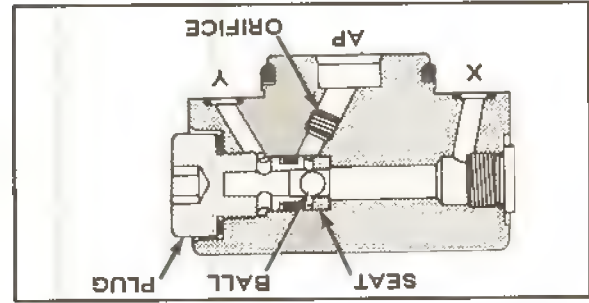
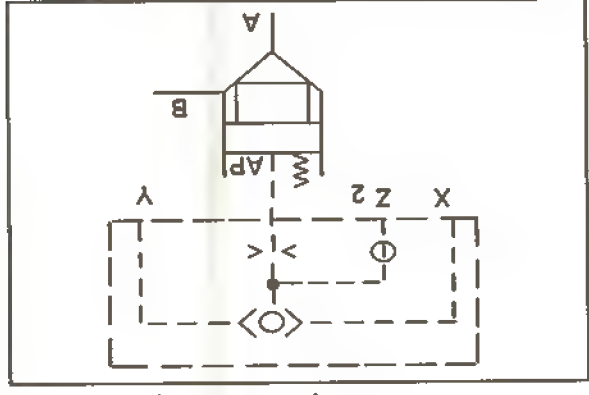

Figure 7. Shuttle Cover Assembly (W Function)
Figure 7a. Shuttle Valve Operation (W Function)
This shuttle cover assembly is available in the 16, 25, 32 and 40mm size. The shuttle cover will take the higher of two pressures and direct it into the pilot spring area (AP) of the cartridge valve insert. Orifices are available in the cover to control reaction time of the poppet. A seat is pressed into the cover bore and a ball is inserted. The outer plug is then installed into the cover. The outer plug retains the ball and seat between the spring area (AP) and the 'Y' port. The outer plug also has an O-ring and back-up ring to prevent leakage between the (AP) and 'Y' port areas. Figure 7 shows the construction of a shuttle cover (W Function) assembly. The shuttle valve operation is illustrated in Figure 7a.